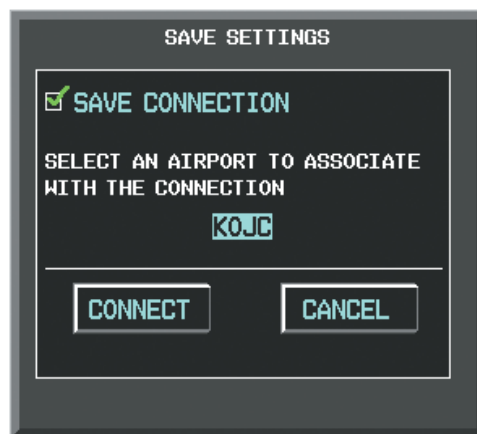

Figure 8-111 Save Connection
- a) Press the **ENT** Key. A checkmark is placed in the checkbox and the cursor moves to the airport field as shown in Figure 8-111.